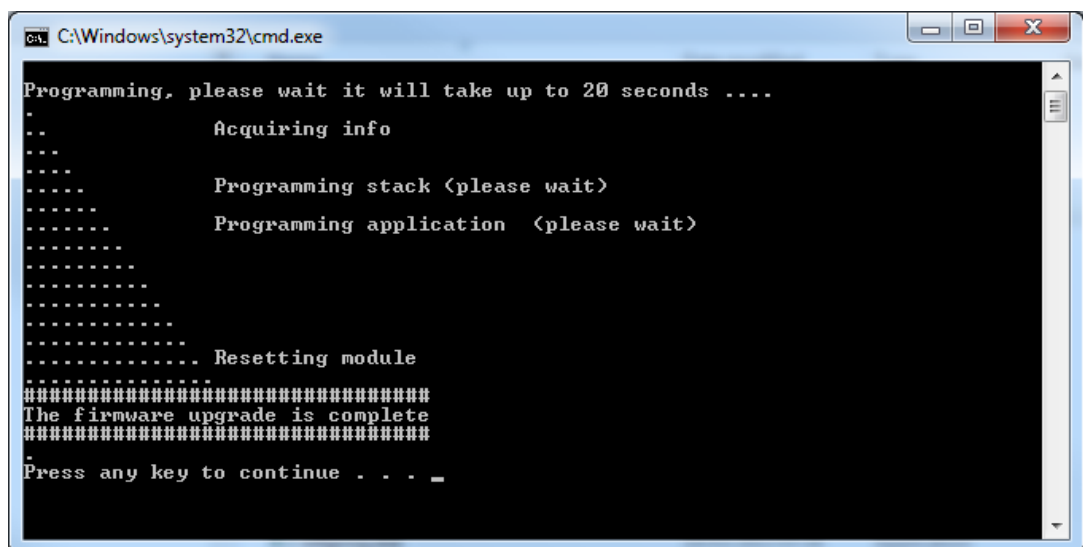

Figure 9: Firmware upgrade window
5. When the BL600 firmware download completes, the console window displays the following (Figure 9):